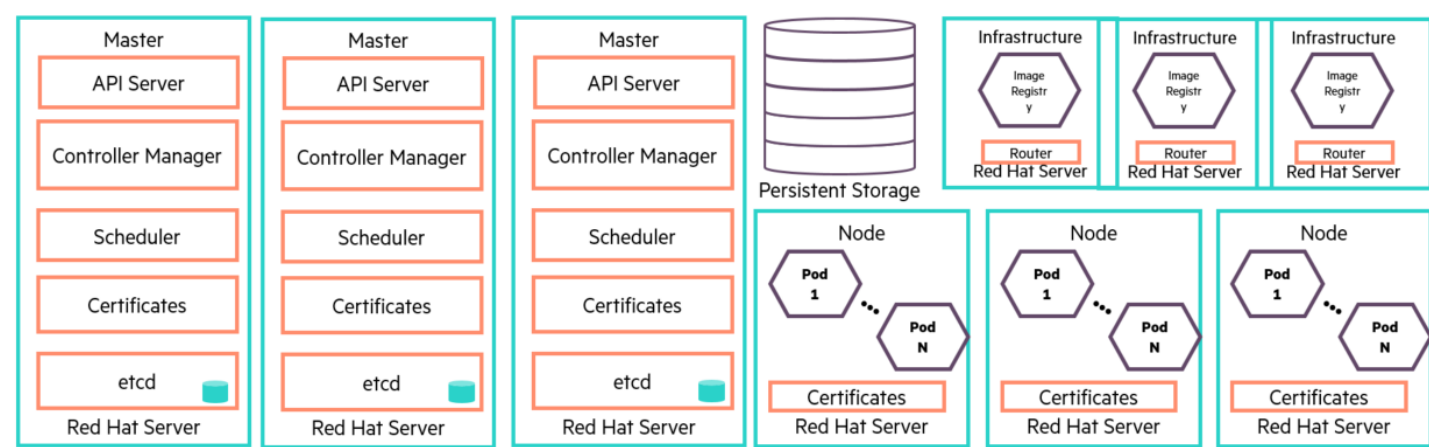

Figure 3. Solution diagram
High availability is achieved using three (3) master nodes and three (3) infrastructure nodes. Worker nodes can be sized in variable quantities according to the capacity requirements of the pods that will be deployed. It is necessary to create a backup of the important components within the OCP cluster in order to recreate the nodes in the event of a failure. Figure 3 describes the major components involved in the deployment of Red Hat OCP.